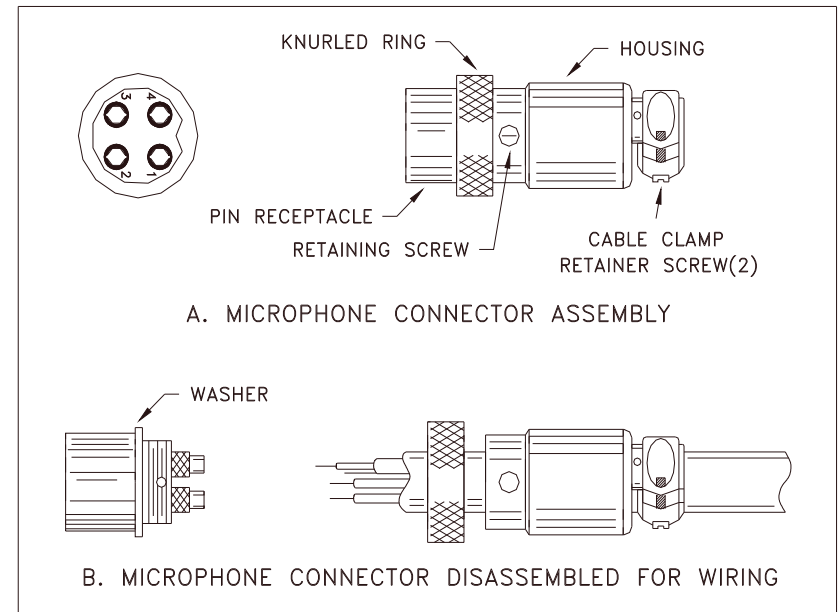

Fig. 2 Microphone plug wiring
4. Feed the microphone cable through the housing, knurled ring and washer as shown Figure 2.
- Be sure that the housing and the knurled ring of Figure 2 are pushed back onto the microphone cable before starting to solder. If the washer is not captive to the pin receptacle body, make sure that it is placed on the threaded portion of the pin receptacle body before soldering.